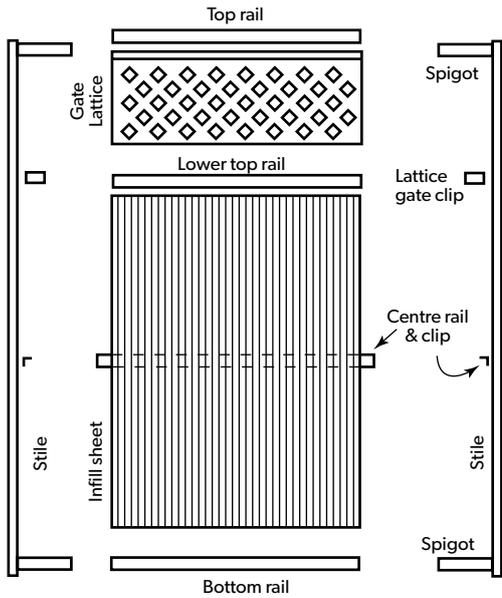

FIGURE 23.2:
2. For extra-wide gates: overlap sheets to the desired width (Figure 23.1). Join the two sheets with hex. head screws #10-16x16 through the overlaps, at both top and bottom edges (Figure 23.2).
7. Insert the spigots of both stiles into the top and bottom rails and locate the centre rail on its clips. If a lattice is used, ensure that the lower top rail fits neatly onto the lattice gate clips (Figure 23.2). Even up the sheets by bumping the ribs with the palm of your hand.
8. Hold both stiles firmly in place and drive one hex. head screw #10-16x16 in each of the four corners, 20mm from the inside edge of the stile (Figure 23.2).
9. Check squareness by measuring the gate's diagonals. Drive a second hex. head screw (#10-16x16) in each of the four corners, 170mm from the stile (Figure 23.2).